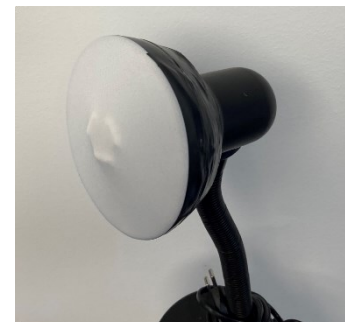

Figure 1 – Example of modified desk lamp
- A broad bright light source to stimulate the nadir cameras (if any). Typically, a desk lamp covered with a cleanroom lint-free cloth will suffice (see Figure 1).